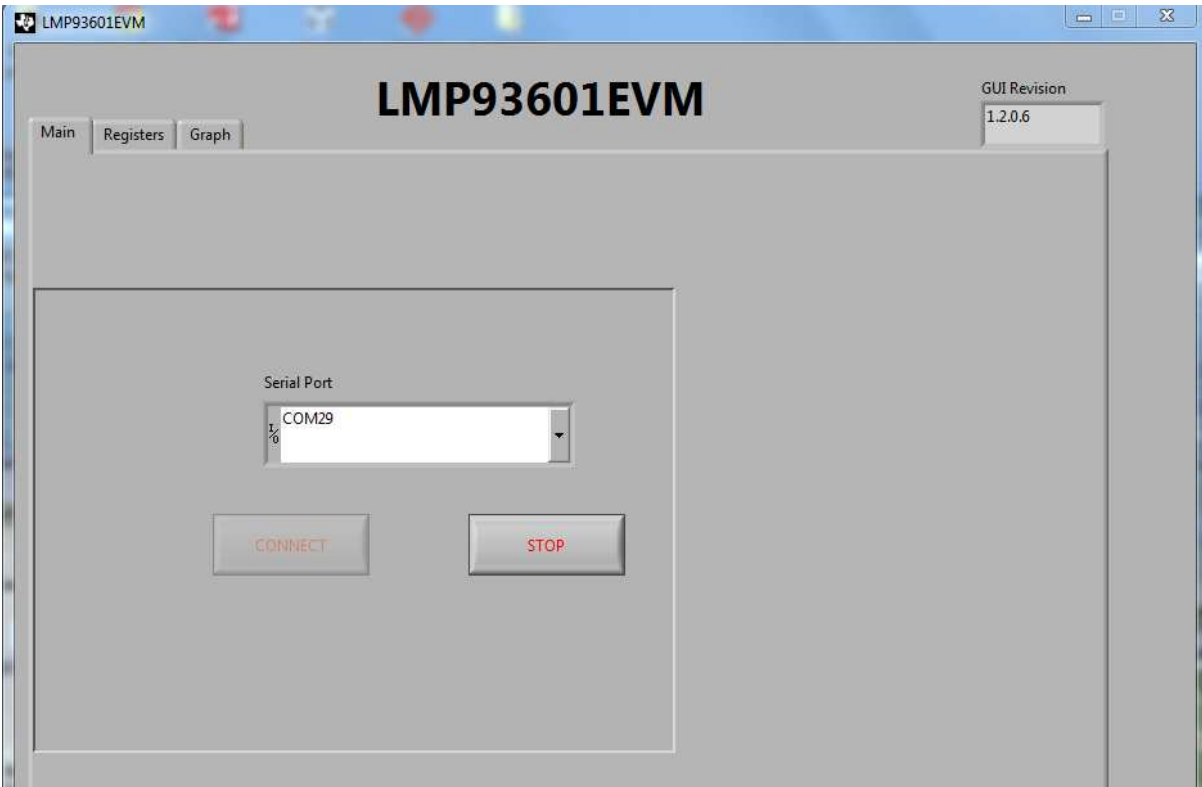

Figure 5. GUI Communication Port Selection
Step 6. In the “Main tab” display mode in the LMP93601 GUI, select the “PortCOM” identified in step 5 and then Click on connect tab and the display as shown in Figure 5.